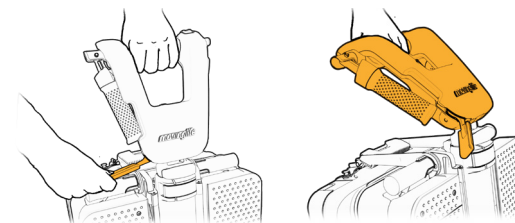

Figure 45
8. Release the adjustment lever of the handlebar (1) and bring the handlebar to a horizontal position (2). Then bring the lever back to secure position (3) (see Figure 45).